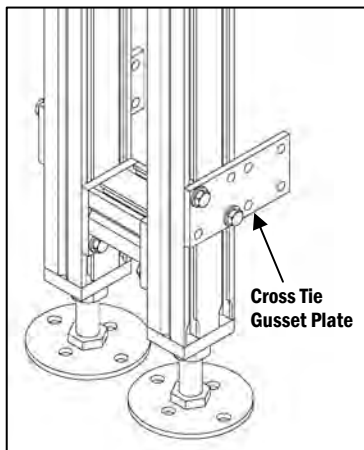

Figure 2
b. If the stands are to be used with Aluminum Cross Ties, it is advised to attach the Gusset Plates prior to mounting the conveyor (Figure 2). Refer to Section 2.06 on Aluminum Cross Ties for specific instructions.